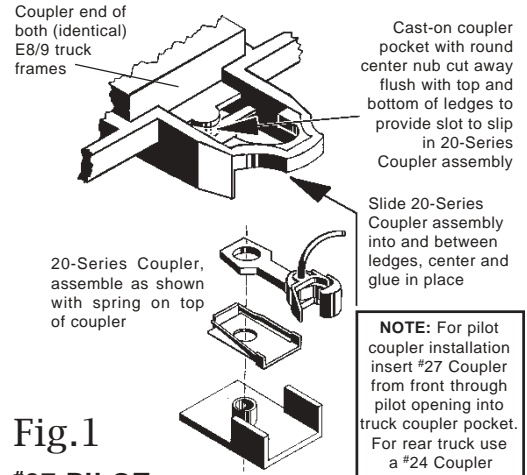

Fig.1
2. Modify coupler pockets on each truck by cutting the round centering nub cut away flush with top and bottom of ledges to provide slot to slip in 20-Series Coupler assembly. See Fig.1.
3. Assemble both 20-Series Couplers as shown in Fig.1.